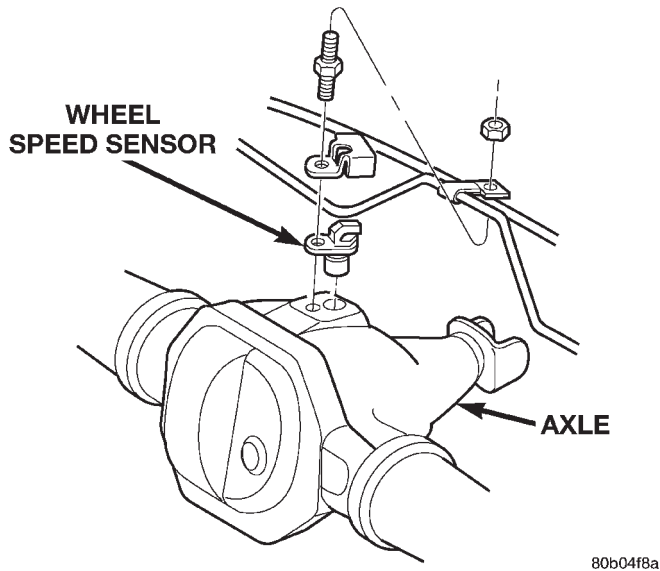

Fig. 9 Rear Speed Sensor Mounting
- (1) Raise vehicle on hoist.
- (2) Remove brake line mounting nut and remove the brake line from the sensor stud.
- (3) Remove mounting stud from the sensor and shield (Fig. 9).